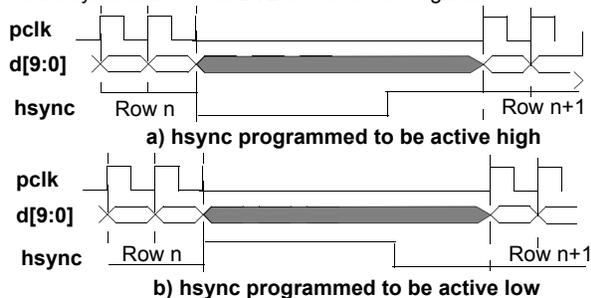

Figure 45. *hsync* in Pulse Mode
- Pulse mode** should be used when the pixel clock, *pclk*, is programmed to operate in *data ready mode*. In pulse mode the *hsync* output pin will produce a pulse at the end of each row. The width of the pulse will be a minimum of four *pclk* cycles and its polarity can be programmed as shown in Figure 45. The *hsync* level is always synchronized to the active edge of *pclk*. The *hsync* pin is put into pulse mode by setting the *HsyncMode* bit of the *DVBUSCONFIG1* register to a logic 1. The active level of the *hsync* pulse is programmed using the *HsyncPol* bit of the *DVBUSCONFIG1* register.